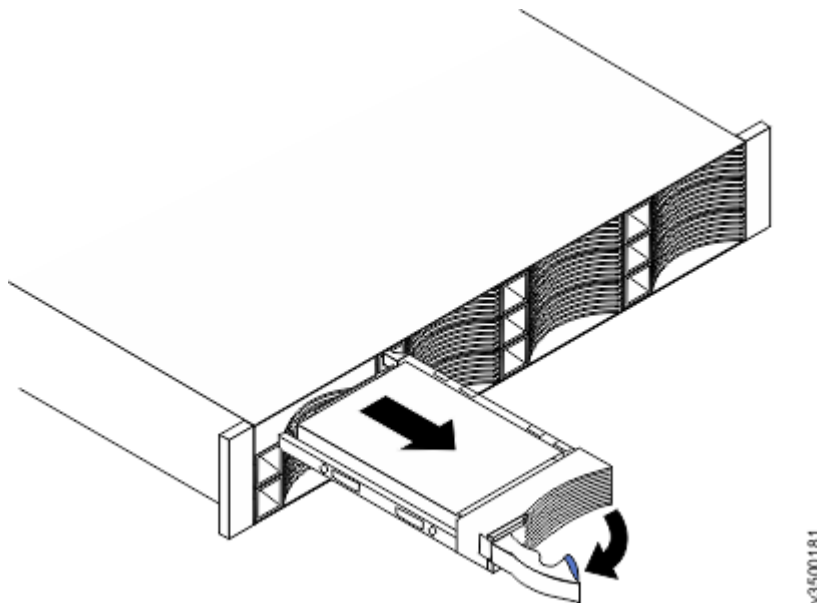

Figure 123. Unlocking and removing a 3.5-inch drive from its slot
5. Pull out the tray handle to the open position (see Figure 123 on page 161).